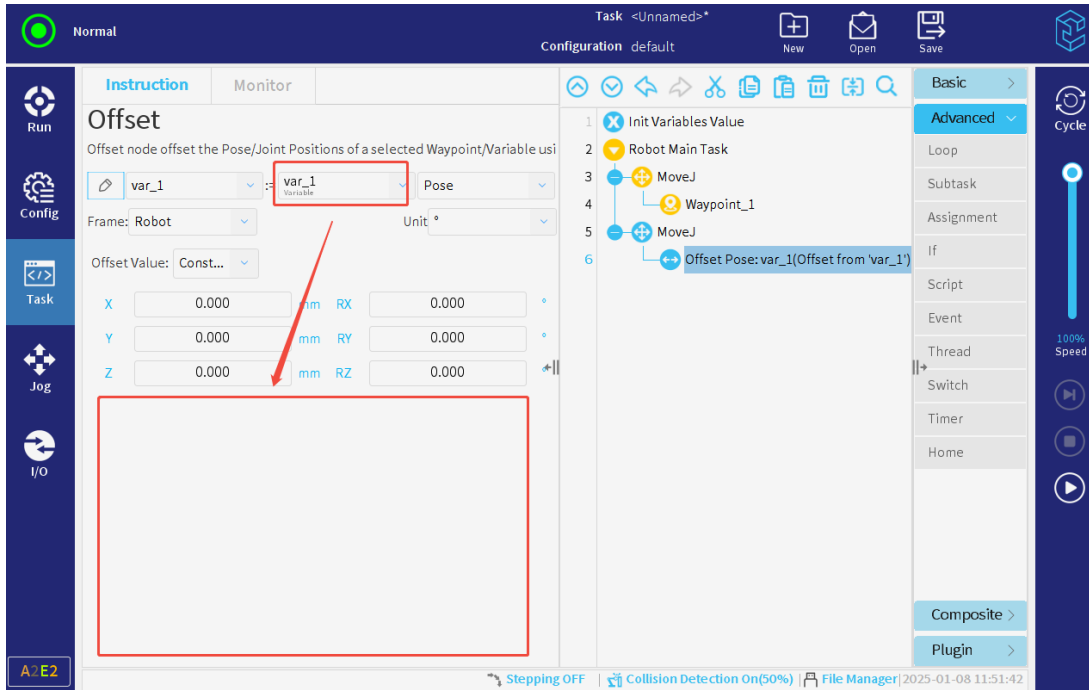

Figure 3-119 : Data Display Interface when Data Source is A Task Variable
- Since the task variable is not a global variable and their data values cannot be obtained when the robot is not in operation, here the data before and after the offset will not be displayed when the data source is a task variable, as shown in **Figure 3-119** .